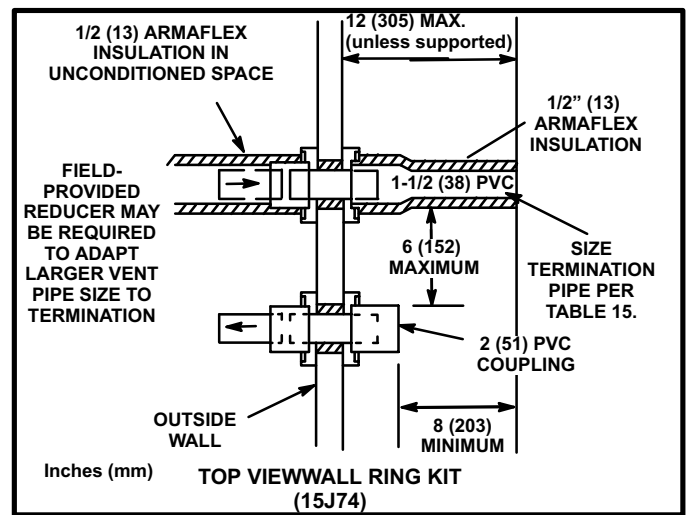

FIGURE 28
6. On field supplied terminations for side wall exits, exhaust piping should extend a minimum of 12 inches (305mm) beyond the outside wall unless supported. Intake piping should be as short as possible. See figure 28.